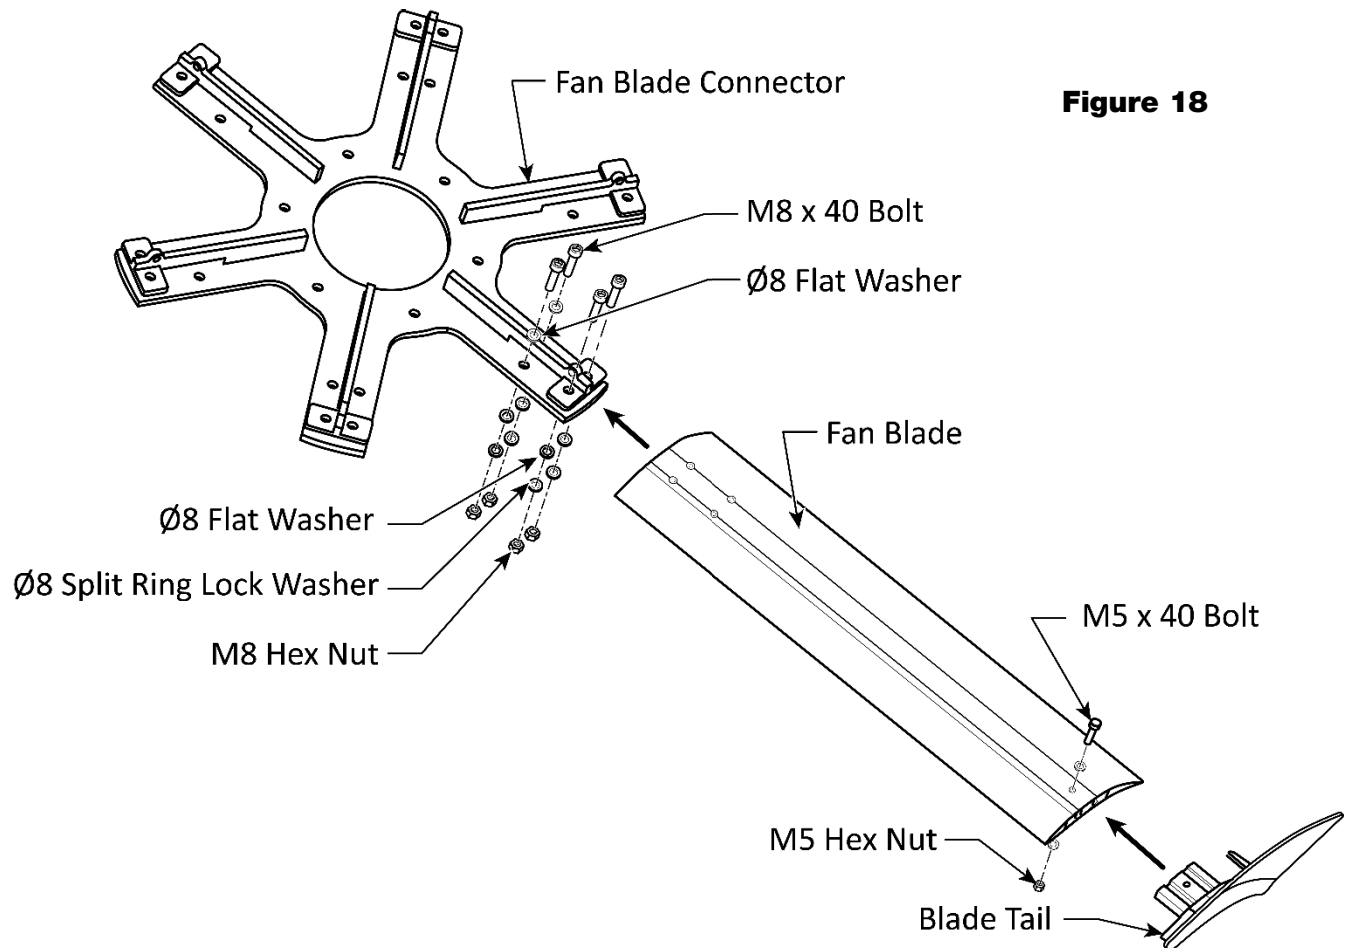

Figure 18
2. Attach the Fan Blades to the Blade Connector using the fasteners as detailed in **figure 18** below. Take care not to damage the Blades during the installation.